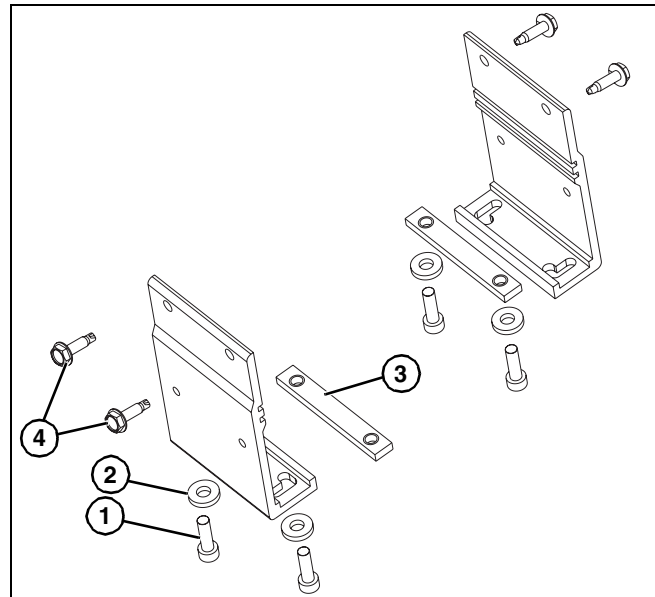

Figure 9
1. Locate brackets. Exploded view shown in Figure 9.
2. Remove screws (Figure 9, item 1), washers (Figure 9, item 2), and connector bar (Figure 9, item 3) from brackets.
3. Locate and retain self-drilling screws (Figure 9, item 4).